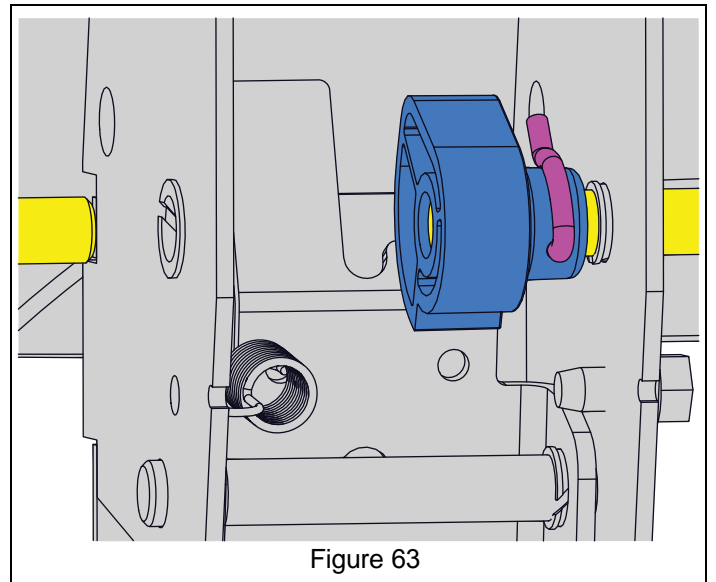

Figure 63
2. Install interlock cam onto camshaft so flat edge is positioned downward. Secure with spring clip. See Figure 63.